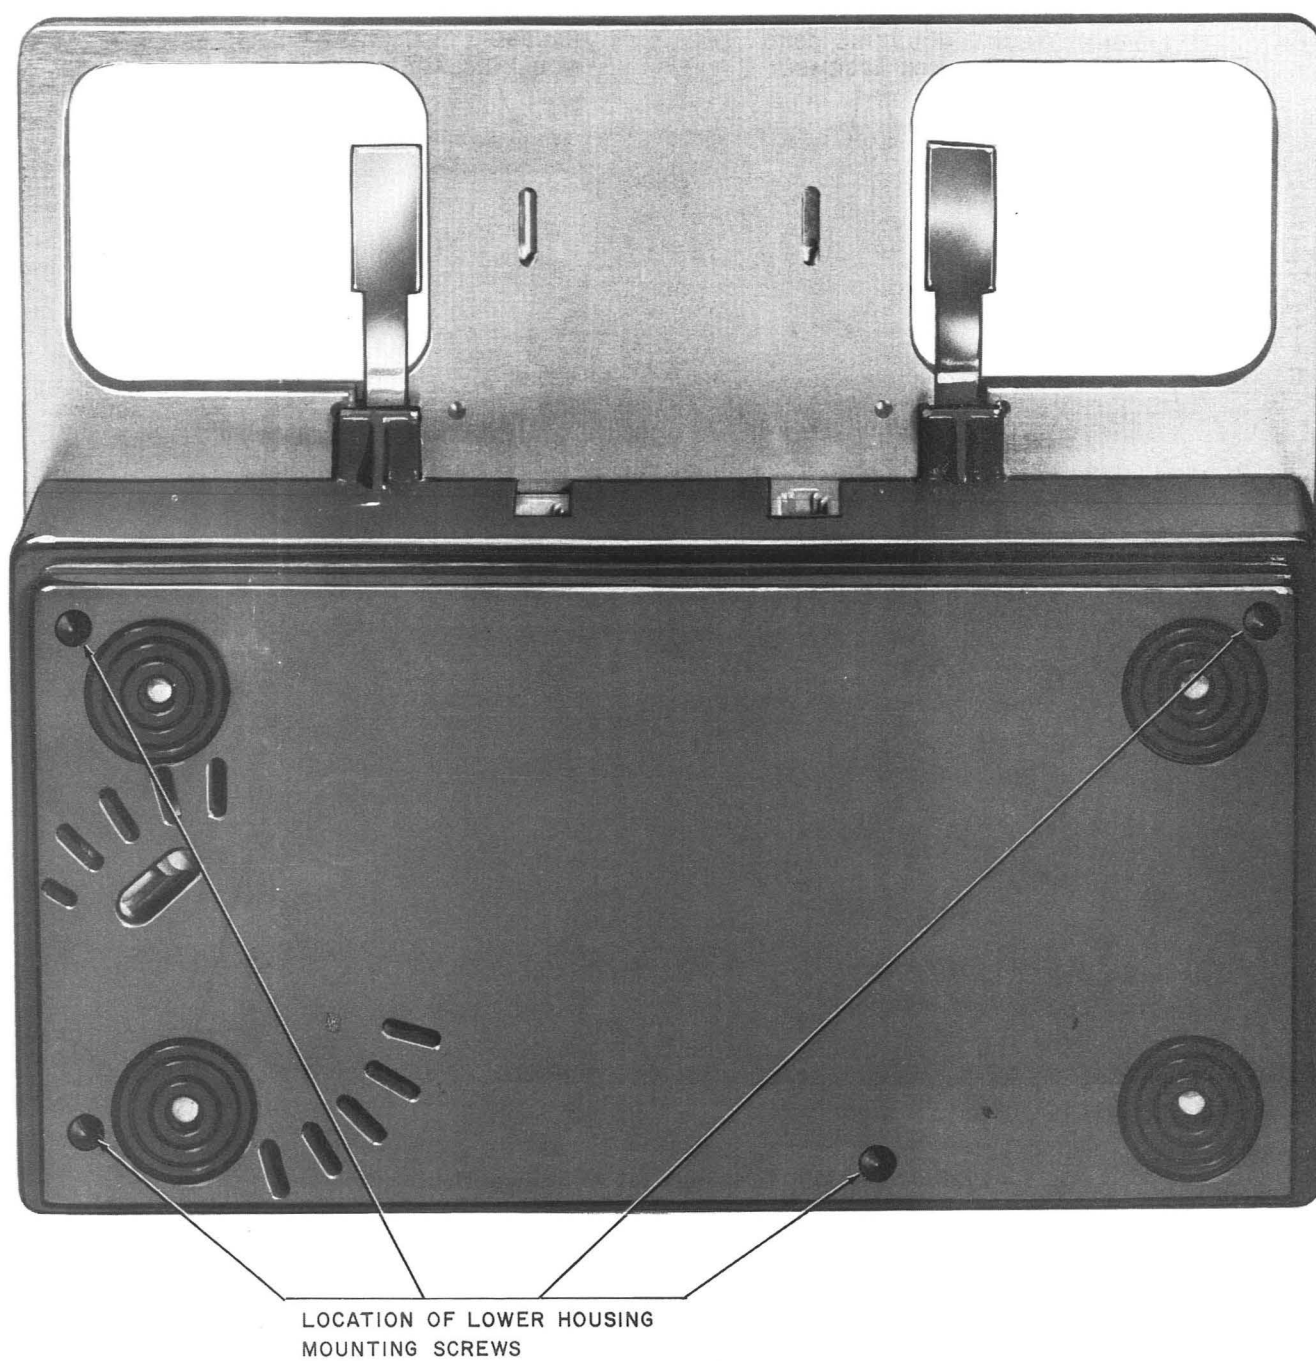
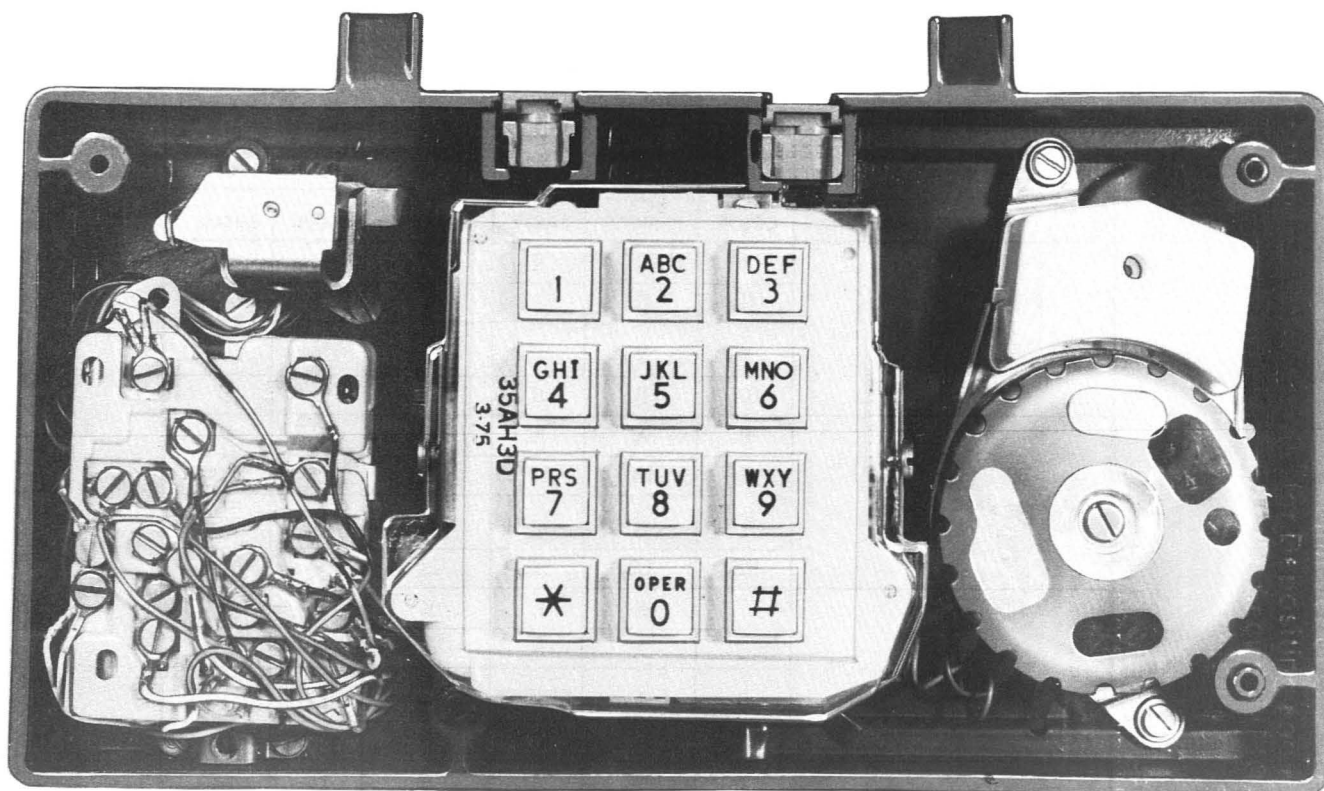

Fig. 6—930B- (MD), 2930B- (MD), or 2931B-Type (MD) Telephone Set, Bottom View
Fig. 7—2930B-Type (MD) Telephone Set, Upper Housing, and Handset Mounting Plate Removed
- (1) Remove handset and mounting cords from the back of the telephone set.
- (2) Remove the four lower housing mounting screws (Fig. 6).
- (3) Remove upper housing and handset mounting plate.
- (4) Remove handset cord jack and mounting cord jack by lifting out (Fig. 7).
- (5) Remove screws holding company-owned components to base and remove components.
- (6) Reassemble handset mounting plate and upper housing on lower housing.